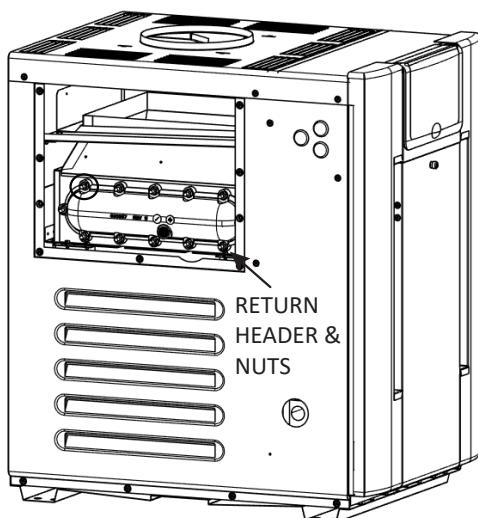

Figure 2. Return Header Mounted in Unit
9. Remove the twelve (12) 7/16" hex head nuts that secure the return header (See **Figure 2**).